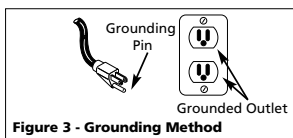

Figure 3 - Grounding Method
- This product is for use on a nominal 120 volt circuit and has a grounding plug that looks like the plug illustrated in Fig. 3. Make sure the product is connected to an outlet having the same configuration as the plug. This product must be grounded. In the event of an electrical short circuit, grounding reduces risk of electrical shock by providing an escape wire for electric current. This product is equipped with a cord having a grounding wire with an appropriate